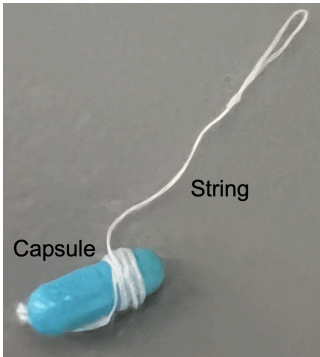

Figure 1. EnteroTracker® Capsule
The EnteroTracker® capsule allows physicians to collect biofluid samples from the upper gastrointestinal (GI) tract. The device is comprised of an ingestible capsule that contains a weighted ball and a highly absorbent nylon string (see Figure 1). The looped portion of the string is secured externally to the patient’s cheek with the supplied Tegaderm™.